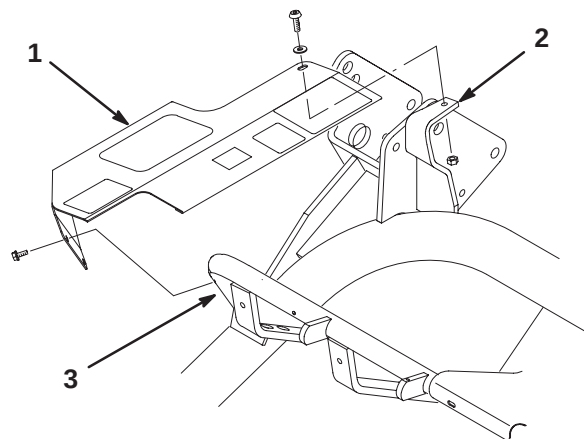

Figure 6
1. Align the cover mounting holes with the holes in the frame tube and mounting bracket (Fig. 6).
2. Loosely secure the rear of the cover to the top of the mounting bracket with a socket head screw (1/4 x 3/4 in.), washer (1/4 in.), and a locknut (1/4 in.) (Fig. 6).
3. Loosely secure the front of the cover to the frame tube with two self tapping screws (Fig. 6). Tighten all of the cover mounting fasteners.